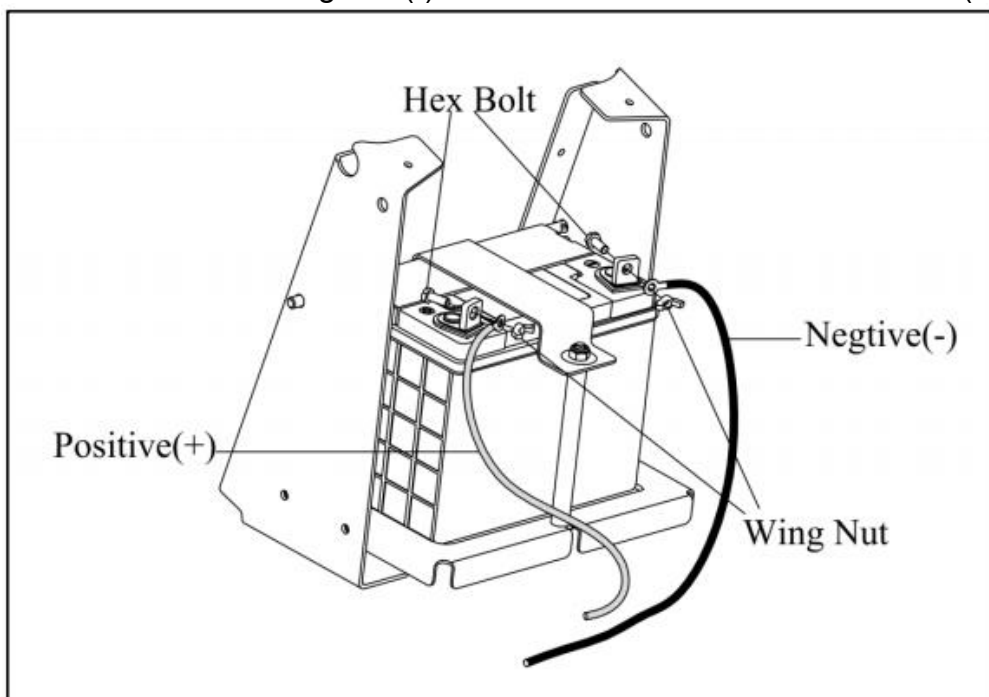

Figure 3
- 2) Fasten the red cable to the positive(+) terminal with the fasteners as shown(Figure 3).
- 3) Fasten the black cable to the negative(-) terminal with the fasteners as shown(Figure 3).